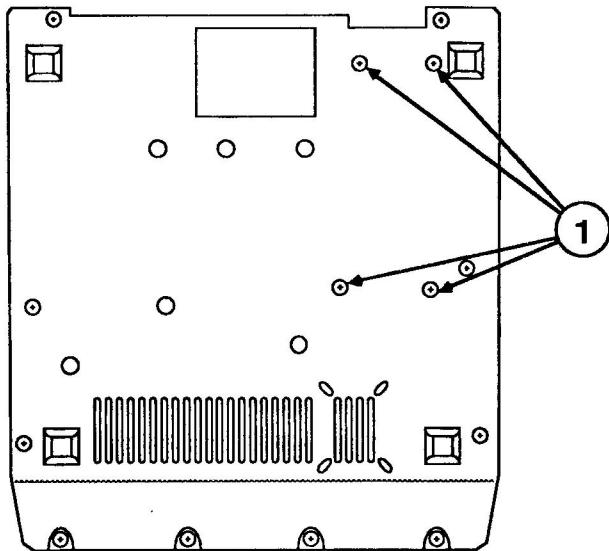

FIGURE 6
4. Using the #2 screwdriver, remove the four Phillips screws (Figure 6, #1) that secure the power supply to the base pan. Remove the base pan from the power supply.